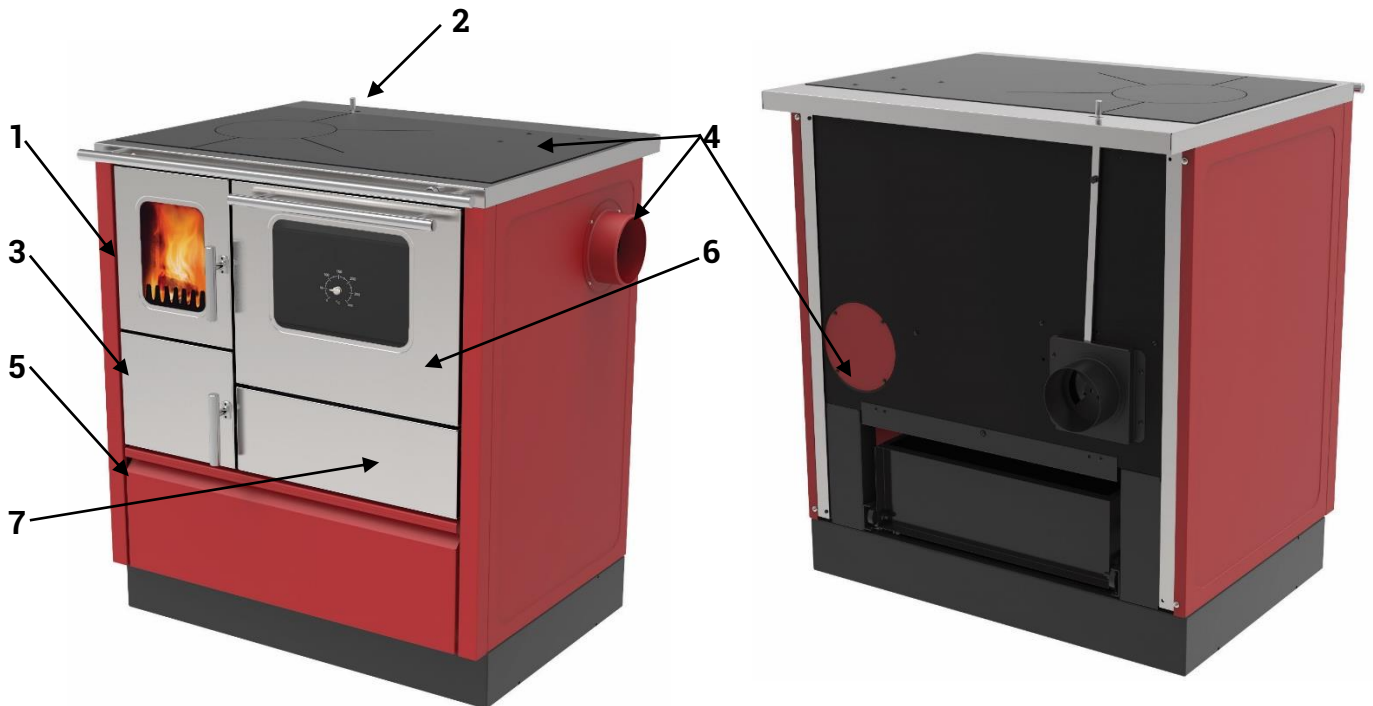

Figure 1 - Inox 75
- Power control (Figure 1 position 2) should open and close the valve by means of regulation button.